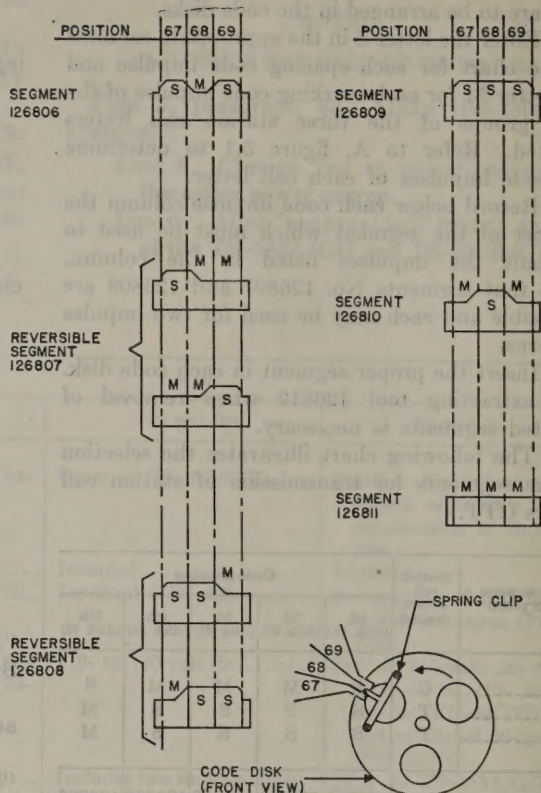

Figure 5.1. Code disk segment data (TS-383B/GG).
Page 7. Add paragraph 11.1 and figure 5.1 after paragraph 11.
32.1) in the TS-383B/GG permits the selection of any three code groups for the station identification portion of the test message. The test message transmitted is: THE QUICK BROWN FOX JUMPED OVER A LAZY DOG'S BACK 1234567890 (three station call letters) SENDING. The test message is preceded by a letters code group and followed by two carriage-return code groups and one line-feed code group. The three station call letters are the 67th, 68th, and 69th code groups transmitted. The TS-383B/GG includes 30 code disk segments (5 of each of the 6 variations shown in B, figure 5.1). When preparing the test set for operation, refer to figure 5.1 and prepare a chart as described below to
a. Enter the letter S in the appropriate columns of the chart for each spacing code impulse and the letter M for each marking code impulse of the code groups of the three station call letters selected. Refer to A, figure 5.1 to determine the code impulses of each call letter.